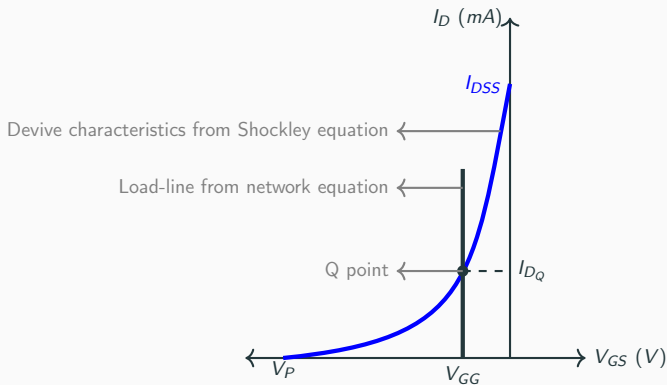

Figure 10: Graphical solution for fixed-bias network
A graphical approach can also be obtained by finding the point of interception between the transfer Equation (5) and the network Equation (6) as shown in Fig. 10.
The self-bias circuit is depicted in Fig. 10.